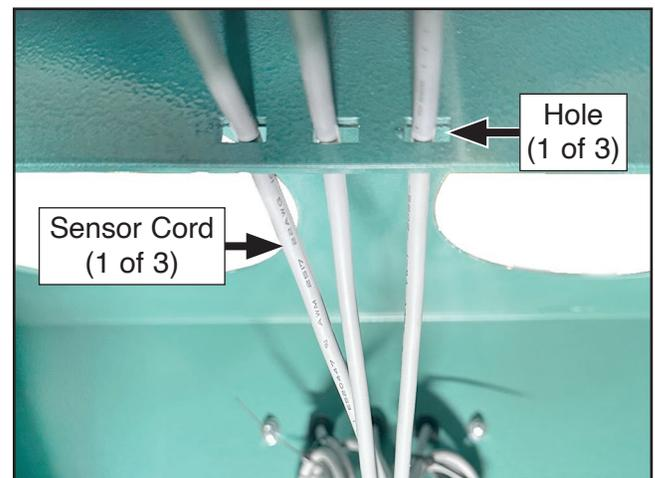

Figure 53. Photoelectric sensor cords routed through holes in machine body.
46. Route photoelectric sensor cords through (3) holes in machine body (see **Figure 53**).